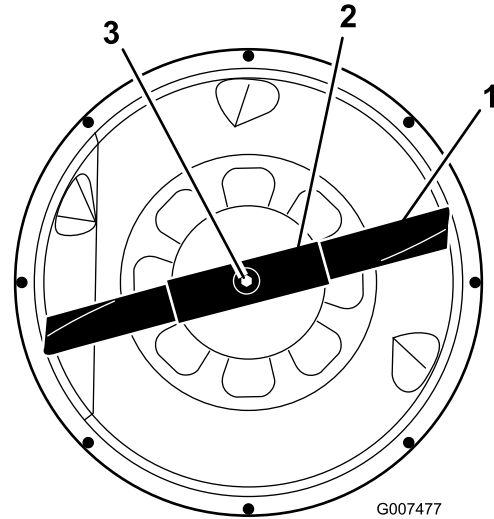

Figure 32
6. Grasp the end of the blade using a rag or thickly padded glove. Then remove the blade bolt, curved washer, blade stiffener, and blade (Figure 32). A block of wood may be wedged between the blade and the mower to lock the blade when you are removing the bolt.
1. Install the blade, blade stiffener, curved washer, and blade bolt (Figure 32).